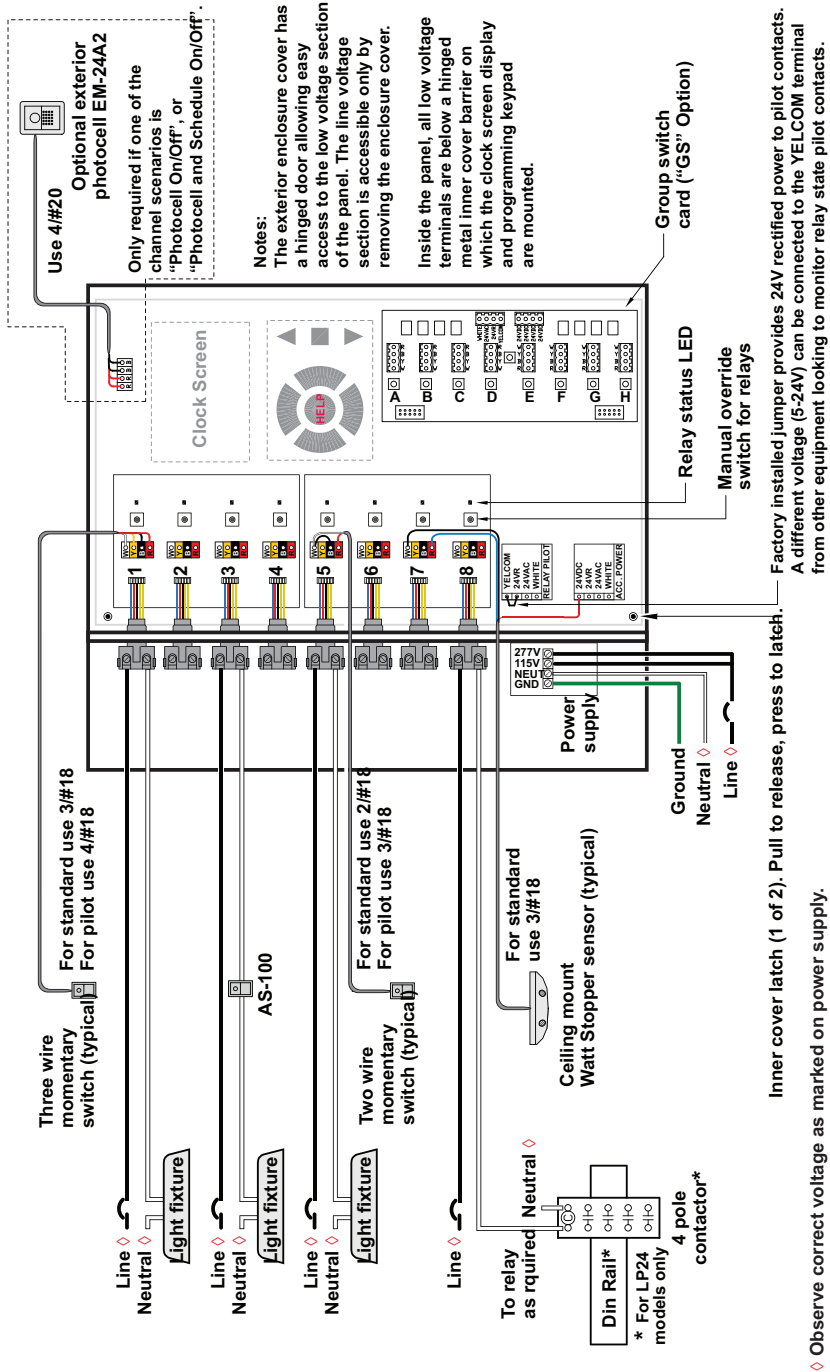

Figure 2: System Wiring Overview
6. Determine the appropriate wire entry locations. Make sure that all line and low voltage wiring entry locations are confined to the appropriate compartments as shown in Figure 2 or 2a as appropriate.